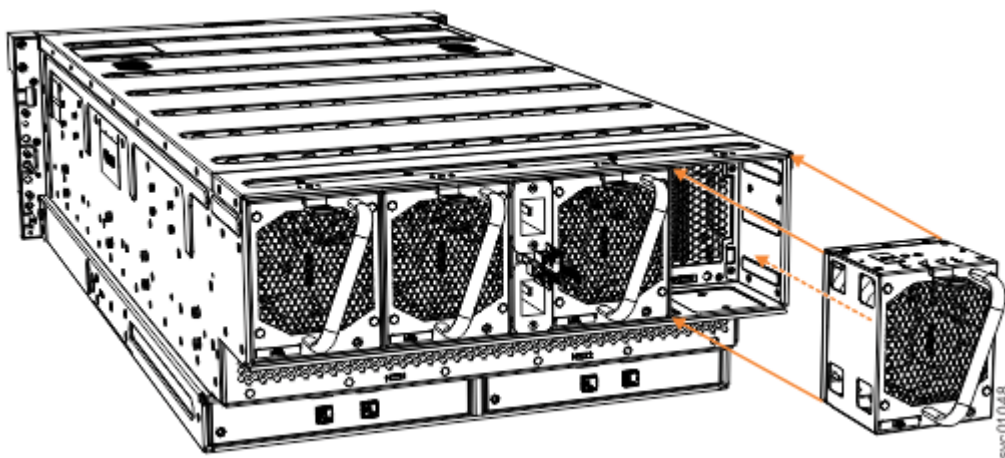

Figure 111. Remove fan module
3. Use the handle to pull the fan module out of the expansion enclosure chassis, as shown in Figure 111 on page 99.